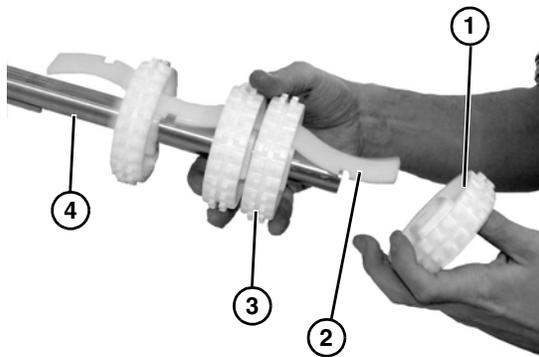

Figure 41
- Slide entire sprocket assembly slightly outward, and remove the first sprocket (Figure 41, item 1) off the drive spindle and alignment bar (Figure 41, item 2).
- Remove remaining sprockets (Figure 41, item 3) off the alignment bar as you slide entire assembly off the drive spindle (Figure 41, item 4).